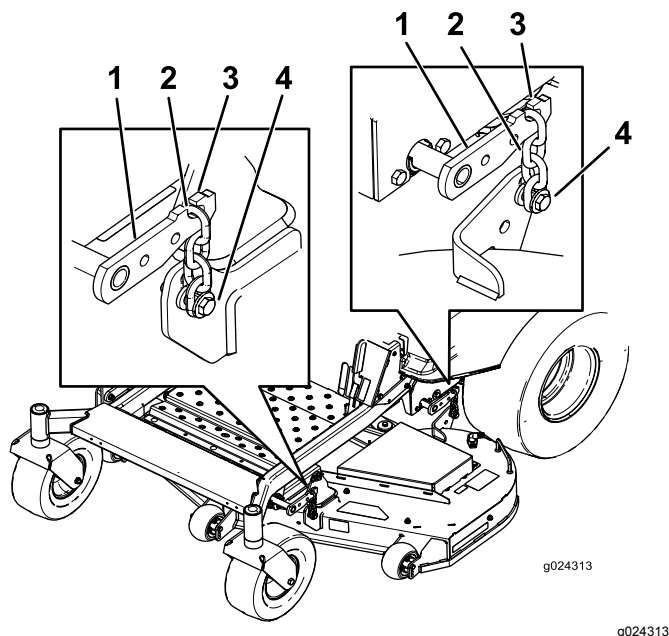

Figure 72
5. Loosen the adjustment bolts on all 4 corners so that the deck is sitting securely on all 4 blocks (Figure 72).
- Ensure that there is tension on all 4 chains (Figure 72).
- Tighten the 4 adjustment bolts (Figure 72).